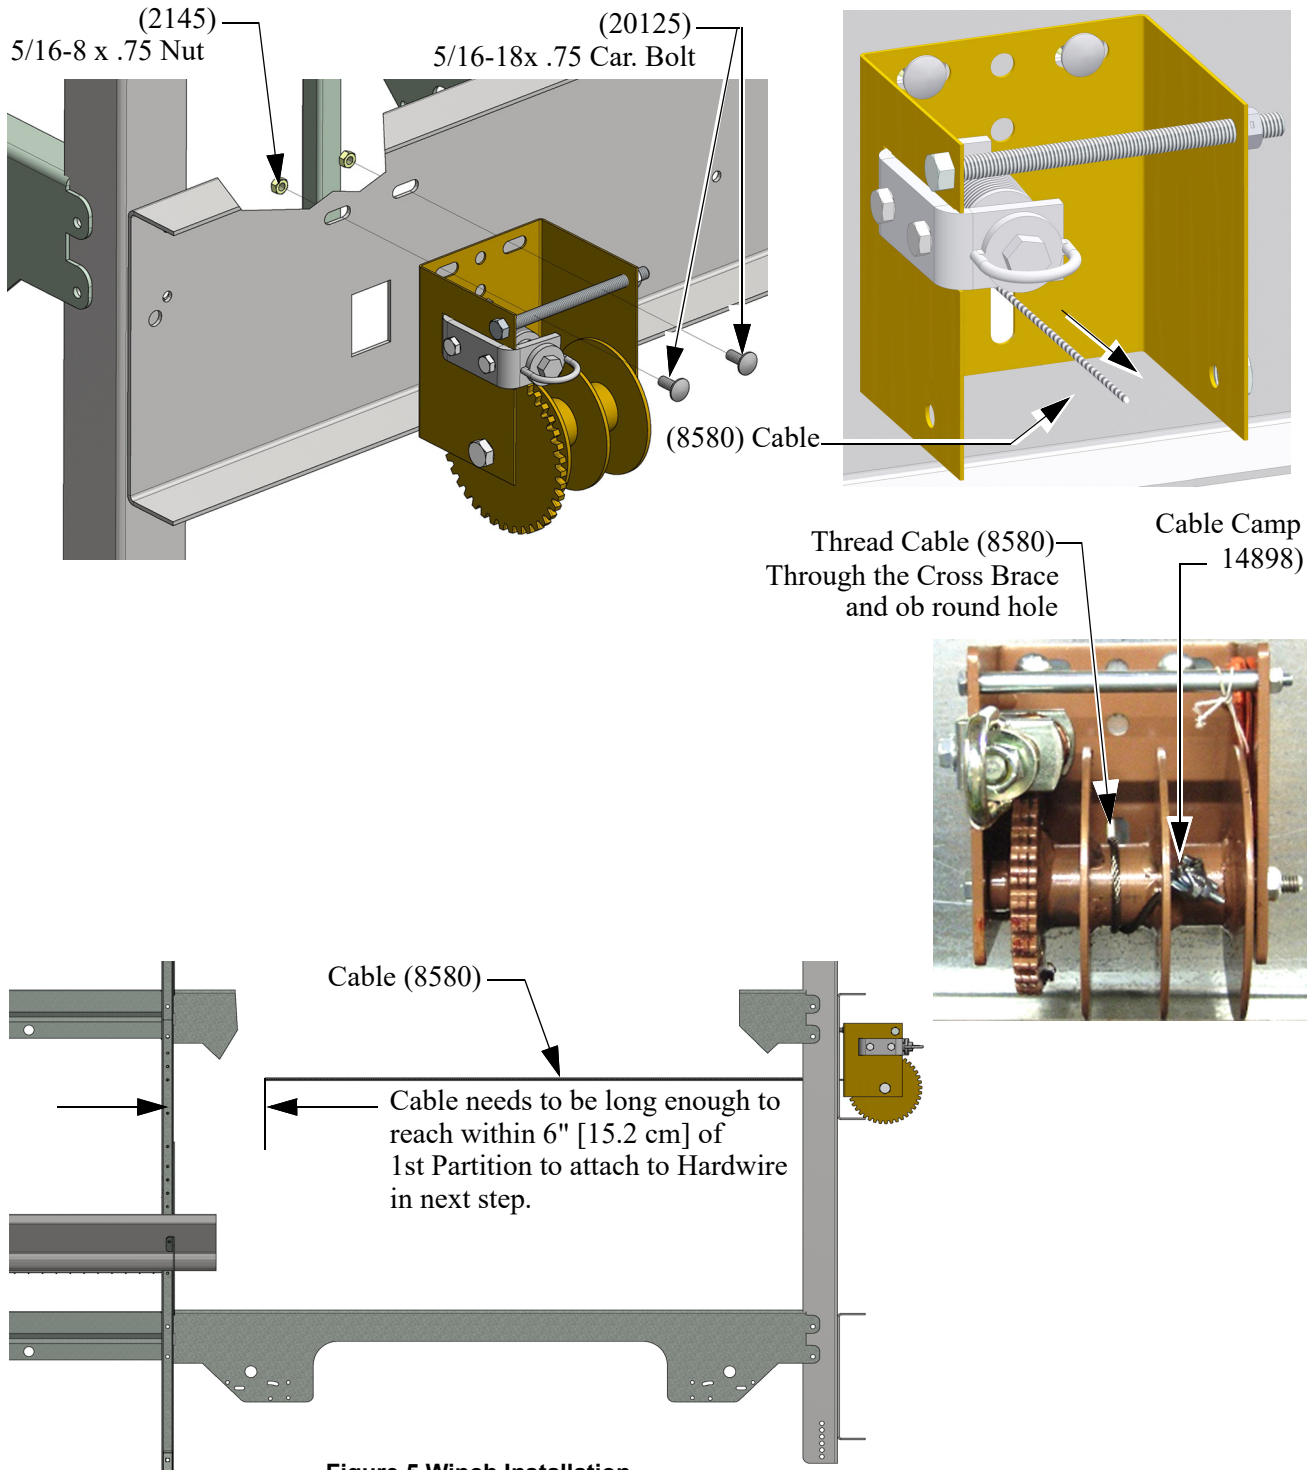

Figure 5. Winch Installation
1. Bolt the Winch (46058) to the Idler Cross Brace Rail using two 5/16-18 x .75 Carriage Bolts (20125) and 5/16-18 Hex Nuts (2145) **(As Shown in Figure 5.)**